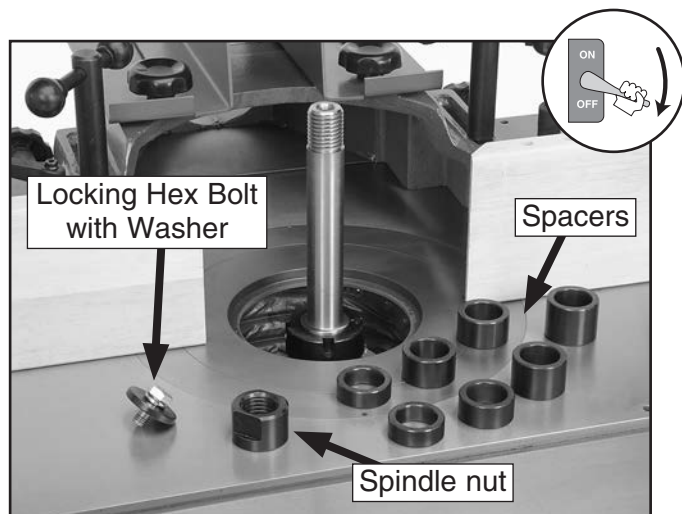

Figure 27. Spindle, locking hex bolt with washer, spindle nut, and spacers.
6. Remove the locking hex bolt with washer, spindle nut, and spacers from the top of the spindle (see **Figure 27**).